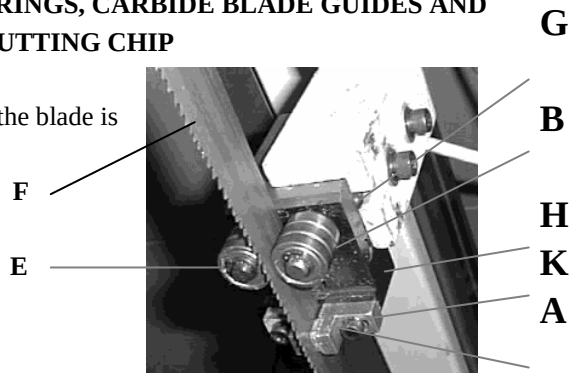

Fig.9
1. The back of the blade (A) (fig. 9) should ride against the back-up bearing (B).
2. The saw blade (A) should also ride between and lightly touch the two blade guide roller bearings (E) and (F) (fig. 9)
The front bearing (E) (fig. 9) is mounted on an eccentric, and can easily be adjusted to suit blade thickness by loosening set screw (G) and turning shaft (E).
3. The carbide blade guides (H) (fig 9) should also be adjusted so they lightly touch the blade by
4. The blade guide roller bearings, carbide guides and backup bearing on holder (fig 9 and 10) should be adjusted in the same manner.